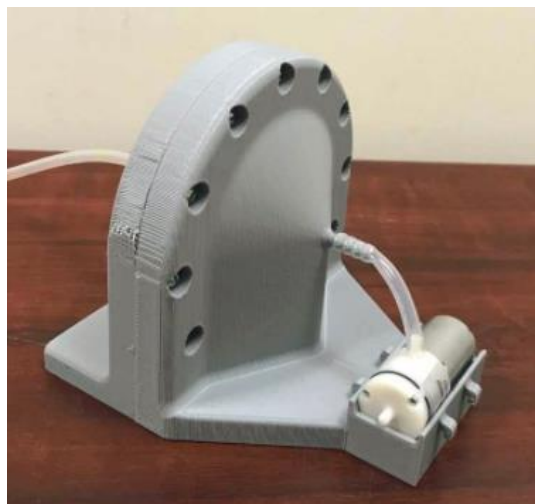

Figure 14B: Fully assembled filter adapter
5. Secure the exit tubing onto the male fitting of side B and then connect the other end of the tubing to the vacuum pump as shown in Figure 14B